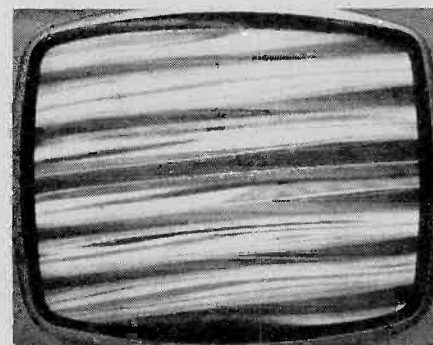

Fig. 5. Slanting lines are a sure sign of horizontal trouble. You may not see a partial picture, just light and dark lines.
**The Horizontal Hold.** Now we come to the control which will show a different reaction. When the picture is rolling vertically, it's easy to see that there is a picture there. However, if the picture is out of sync horizontally, you get an entirely different pattern. Remember that the picture is still being scanned vertically. So if the horizontal hold is out of adjustment, you'll see a pattern that looks like Fig. 5. You won't be able to see a picture at all—nothing but a series of slanting lines. (The fact that there *are* thick, black lines on the screen shows that you *do* have a picture, but it's out of sync horizontally.) These lines may slant from upper right to lower left, or upper left to lower right, depending on which way the horizontal sync is off. If you have only 2 or 3 horizontal lines, you may be